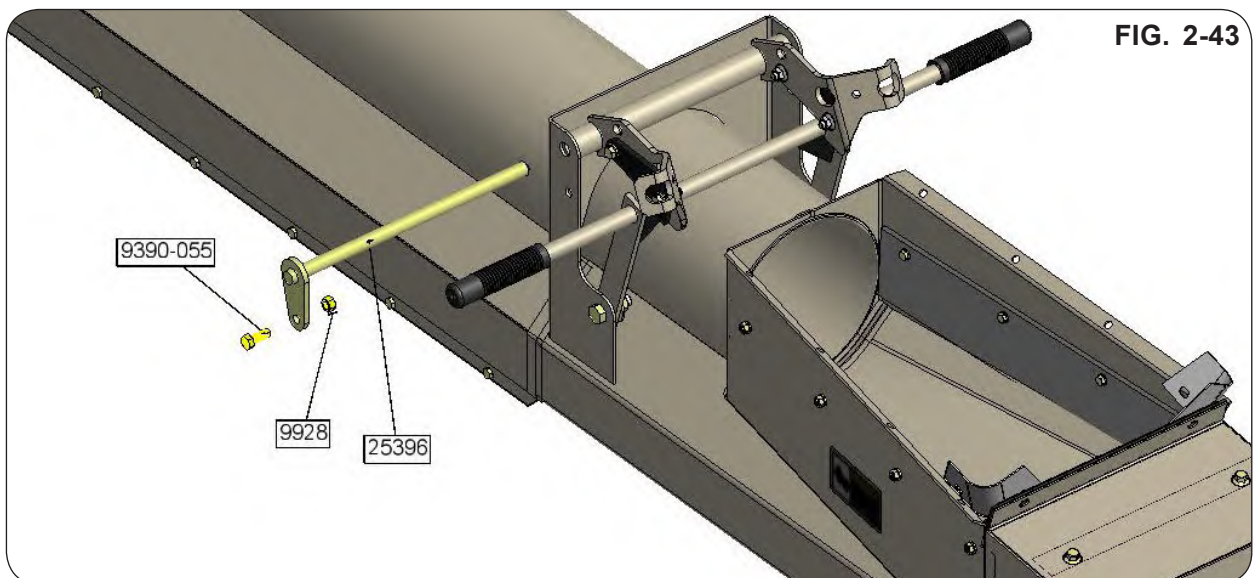

FIG. 2-43
3. Rotate the pivot weldment (25393TS) into position as shown in Fig. 2-43. Insert the pin weldment (25396) and secure with 3/8"-16UNC x 1" capscrew (9390-055) and 3/8"-16UNC locknut (9928).